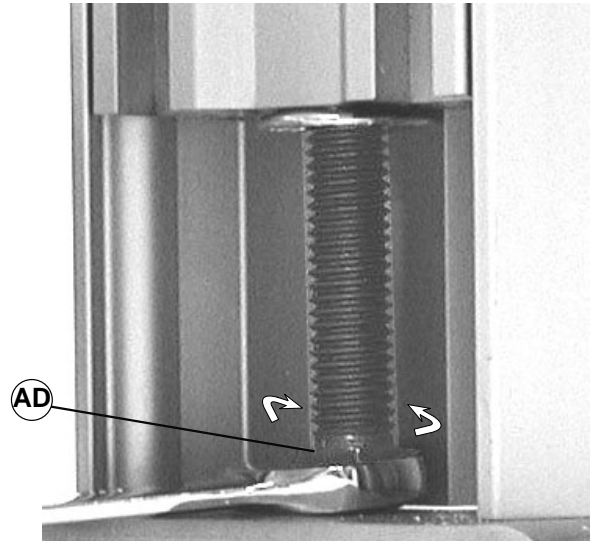

Figure 22
2. Turn kit bolt (AD of Figure 22) to required height.